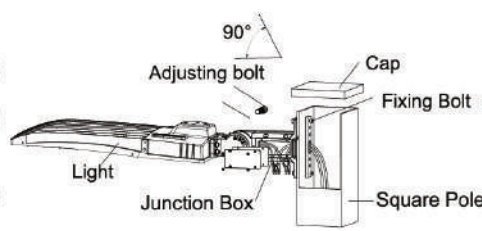

Figure 27
Step 2: Fix A&D bracket to square pole with bolt, open the cover of A&D bracket junction box, pull the wire into bracket junction box, connect the wire properly and cover the junction box. (Figure 27)
Notice: Adjustable angle is 0-90°.(Figure 27)